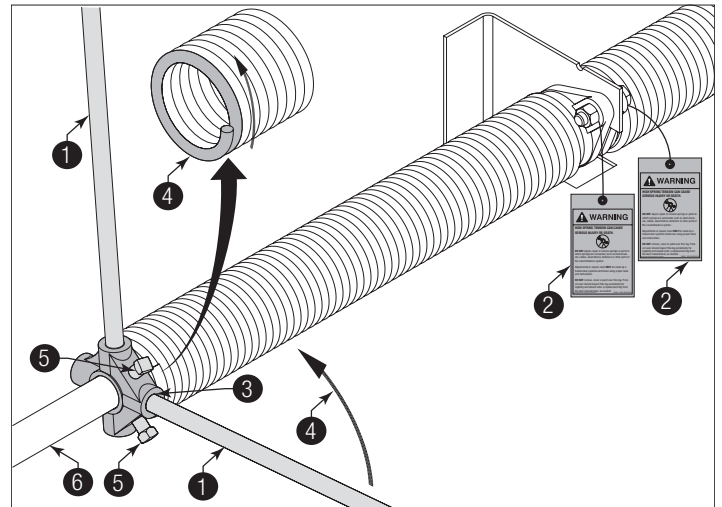

Figure 42
**PRIOR TO WINDING THE SPRING, ENSURE YOU'RE WINDING IN THE PROPER DIRECTION AS SHOWN IN FIGURE 42. OTHERWISE THE SPRING FITTING MAY RELEASE FROM SPRING AND RESULT IN SEVERE OR FATAL INJURY.**